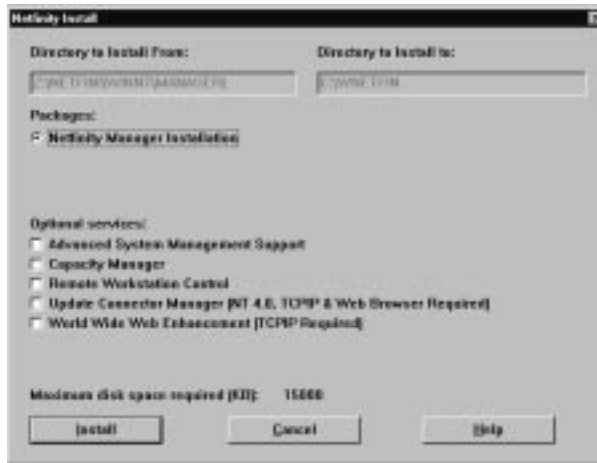

Figure 1. The Netfinity Manager Installation Program
8. Click **OK** to save these settings and open the Netfinity Manager Installation Program window (see Figure 1 on page 40).